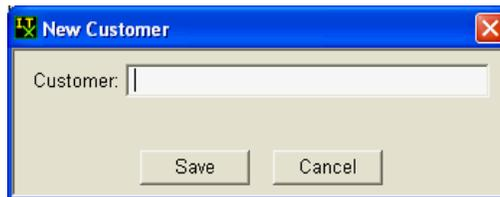

Figure 1.5B
b) To edit an existing customer, click on the clipboard  located next to the 'create new customer' icon at the top left of the program. Clicking on this button will display the same message box (seen in figure 1.5B) and allow you to make the appropriate changes.